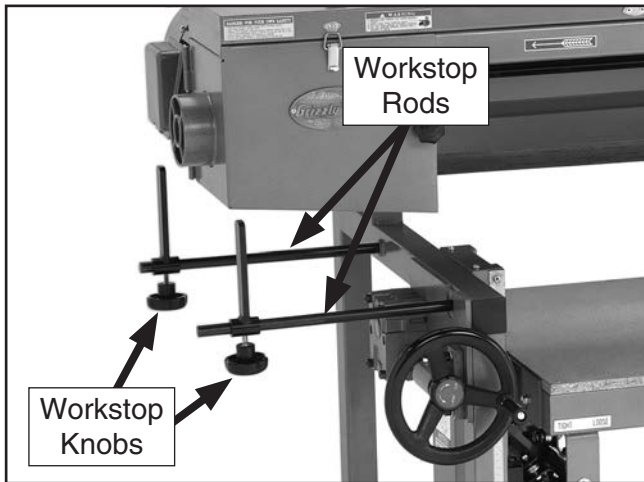

Figure 31. Auxiliary workstops.
21. Attach the auxiliary workstop rods by threading the workstop rods into the machine base, then sliding the workstops over the rods and tightening the knobs. (**Figure 31**).